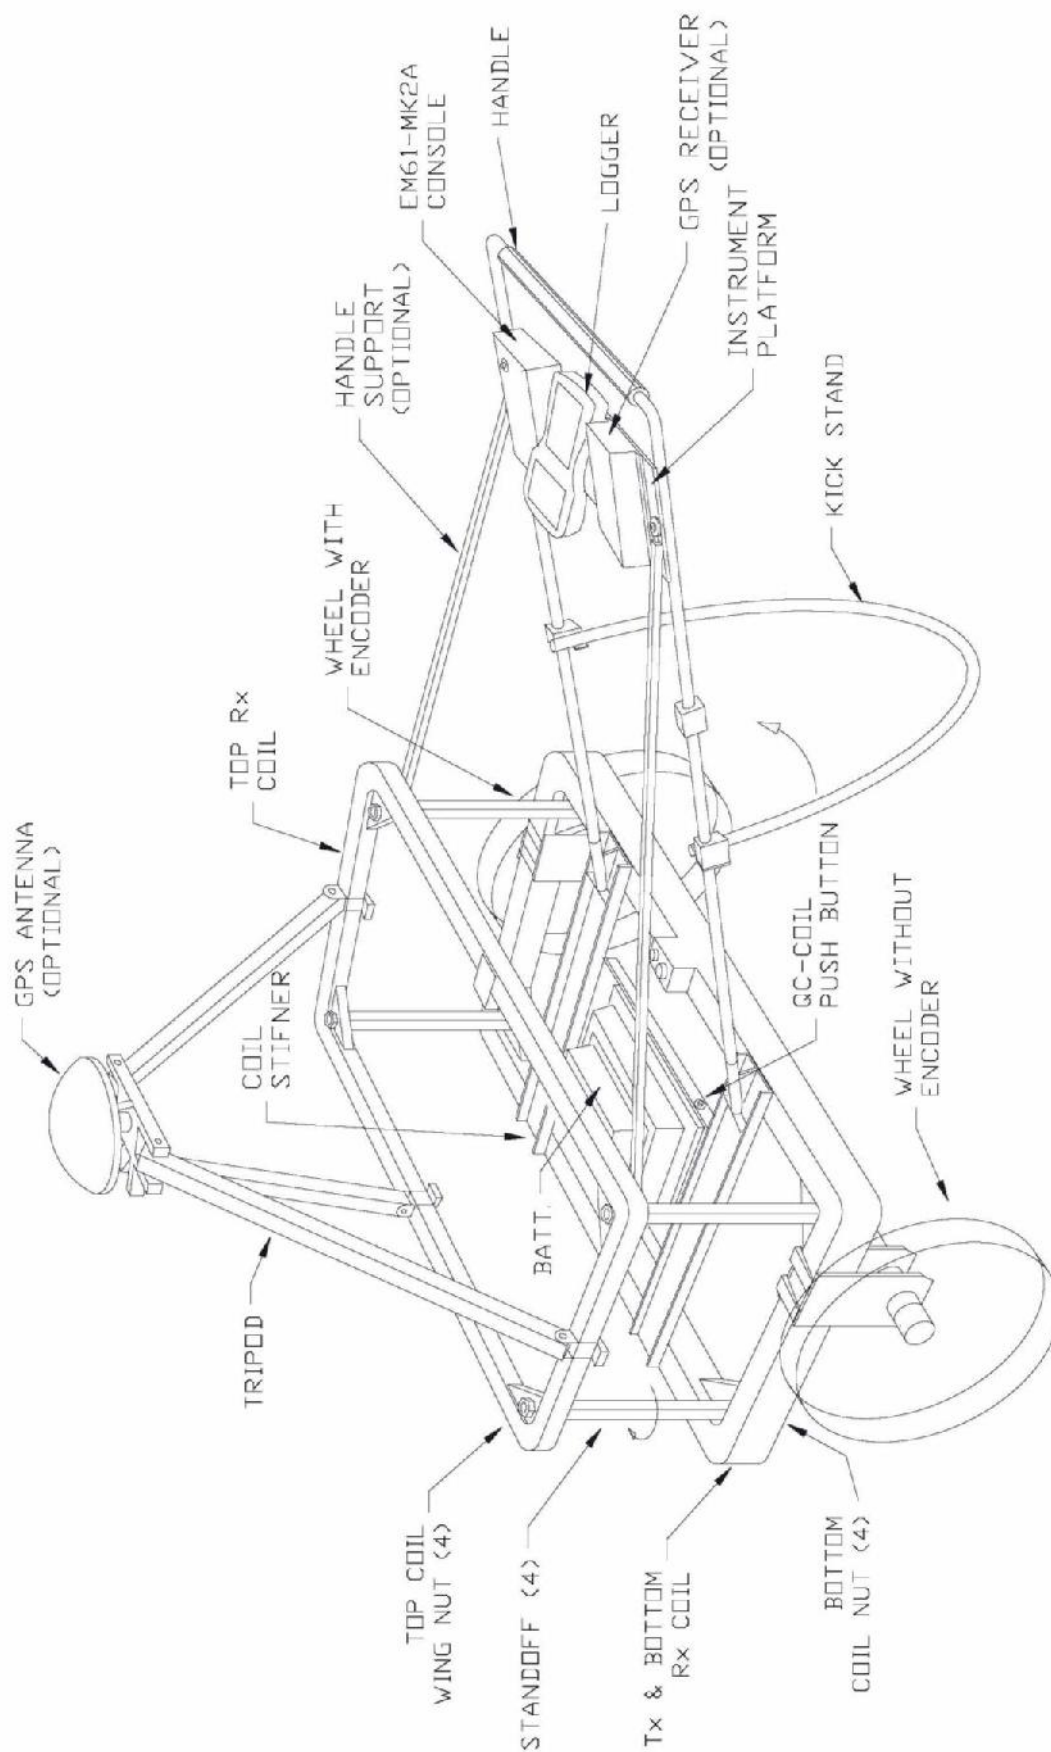

FIGURE 1
Figure 1 shows the system assembled for the trailer mode of operation.
To assemble the trailer set the bottom coil (larger of the two) on the ground with the top of the coil facing the ground and slide the wheel assembly into the wheel guide (marked with red dot) on the side of the coil so that the wheels are outside the coil frame. Make sure that the wheel assembly with the short cable (1) is placed on the right side of the coil as indicated on the Figure 1. Secure the wheels with the latch. Rotate the coil so that the main coil frame is resting on the wheels. Set the four standoff bars to each corner of the bottom coil and lock them with the coil mounted nuts by twisting standoff clock wise. The standoff side painted red should be placed to the bottom coil.
Set the handle into the handle bracket located on the bottom coil and lock it with the attached locking pin on each side. Set the two handle support bars over the standoff. Set the kick stand as per Figure 1. Set the logger into the logger holder.
Assemble the second (smaller) coil frame as indicated on the Figure 1, and lock it to the coil standoff, with wing nuts mounted on the top Rx coil.
Set the GPS tripod as per Figure 1 following red dot mark on the top coil, then mount GPS antenna on it. Interconnect GPS receiver with GPS antenna using cable (5).